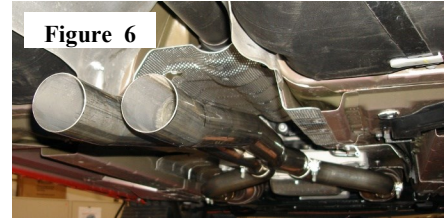

Figure 6
3. Verify orientation of **X-Pipe Assembly** (*note curvature*). (See Fig.6)